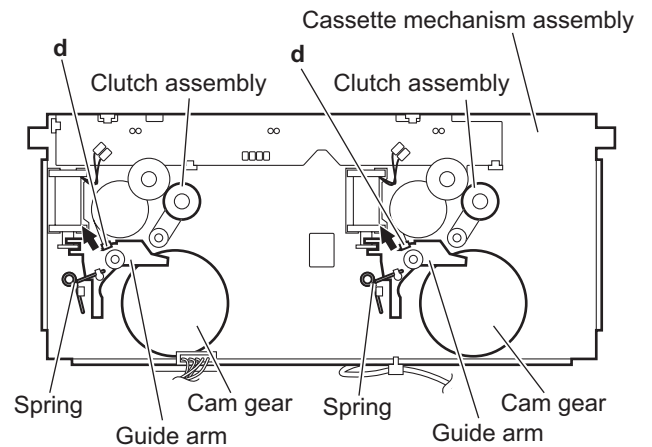

Fig.7
- (6) Release the claws **d** in the direction of the arrow, remove the guide arms. (See Fig.7.)
When attaching the guide arms, attach the springs with them as before. (See Fig.7.)
- (7) Remove the cam gears in an upward direction. (See Fig.7.)
- (8) Take out the clutch assemblies from the cassette mechanism assembly. (See Fig.7.)